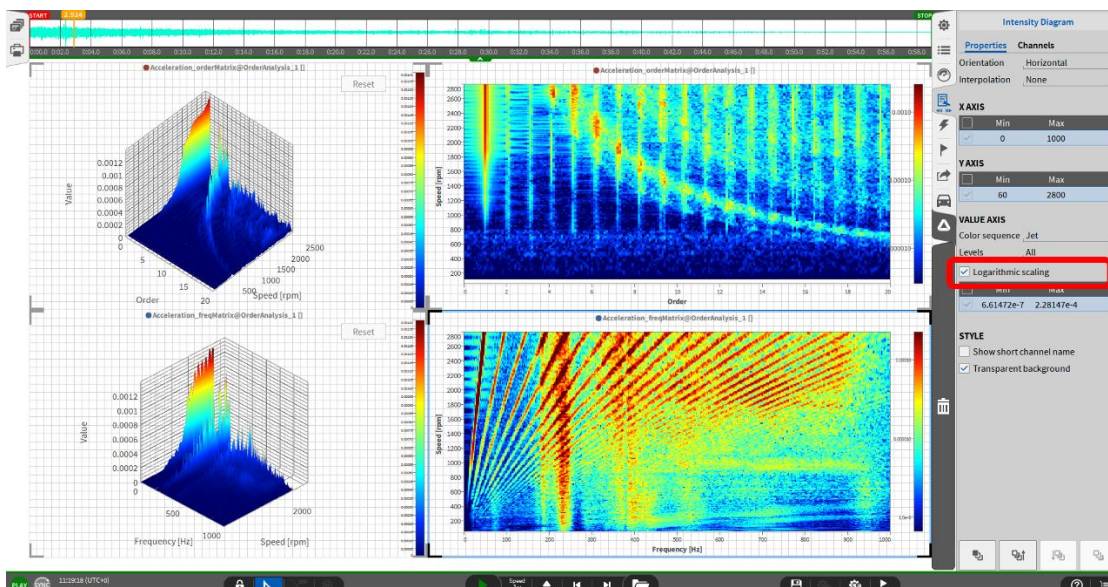

Figure 2-9: Logarithmic scaling of the intensity matrix
- If necessary, enable the logarithmic scale (for the color palette) per instrument (see Figure 2-9:)